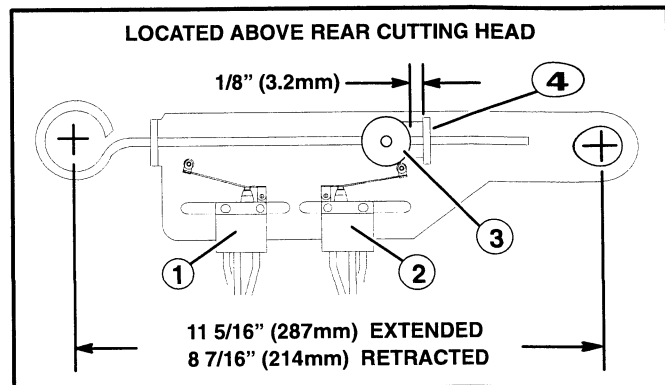

Figure 24
2. Once you have completed setting the sequence control switch, move to the limit switches above the rear head (See Fig. 24).
3. With the heads lowered and cylinders fully retracted, check the dimension of  $1/8"$  (3.2mm) between the cam and ear. While they are still retracted, check the dimension of  $8 \frac{7}{16}"$  (214mm) from pin to pin (See Fig. 24).
From pin to pin check the dimension of  $11 \frac{5}{16}"$  (287mm) when the heads are raised and the cylinders are fully extended (See Fig. 24).